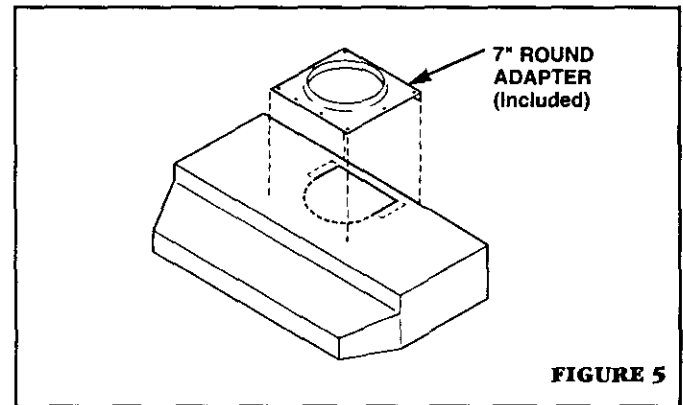

FIGURE 5
2. For 7" round discharge installation, refer to FIGURE 5. Secure 7" adapter (included) to top of hood using screws provided. Install 7" round damper (Model BP87, purchased separately).